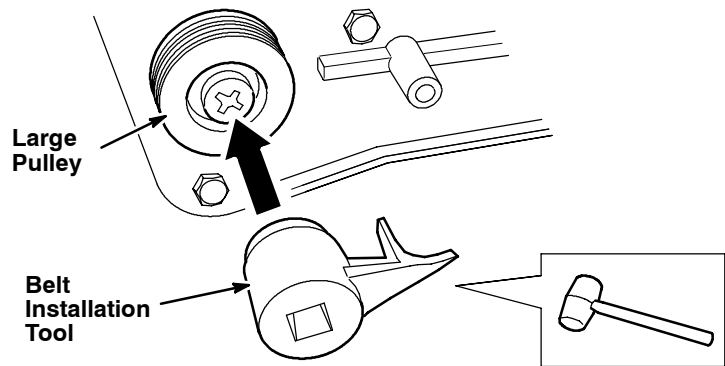

FIG. 1
**STEP 1:** Attach Belt Installation Tool to large pulley. Slightly tap tool with a hammer to secure (Figure 1).